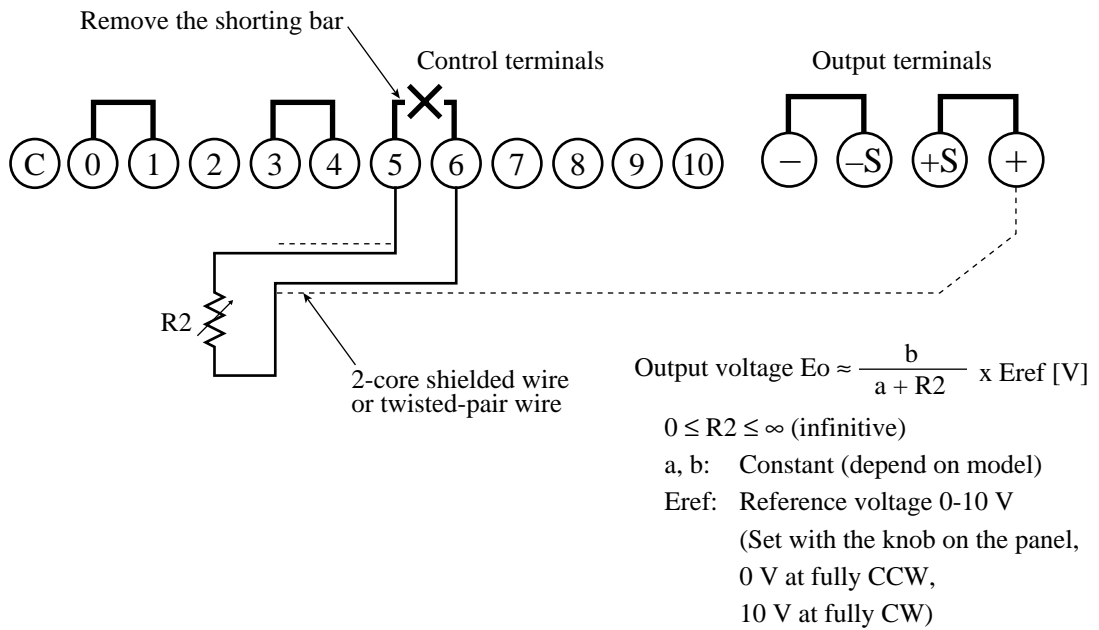

Fig. 4-5 Connections for output voltage control (II) with external resistor
- The output voltage  $E_o$  is determined by  $R_2$  and  $E_{ref}$ , according to the equation shown in Fig. 4-5.  $E_{ref}$  is set with the VOLTAGE setting knob on the front panel. (Use a guard cap (supplied) to disable a setting knob on the panel.)
2. As shown in Fig. 4-5, remove the shorting bar across the control terminals 5 and 6.
3. Connect an external resistor (R2) across the control terminals 5 and 6 as shown in Fig. 4-5.